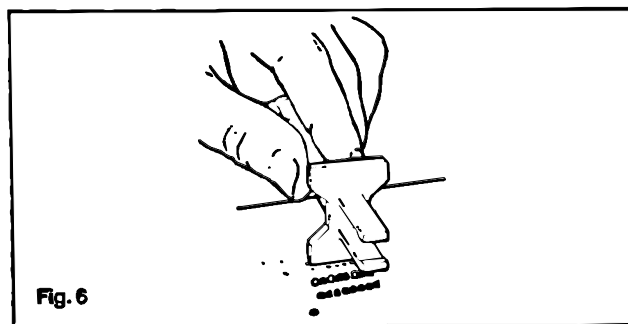

Fig. 6
1. Place shallow slotted end of 3527 tool over Plug Strip contacts. (Figure 6)